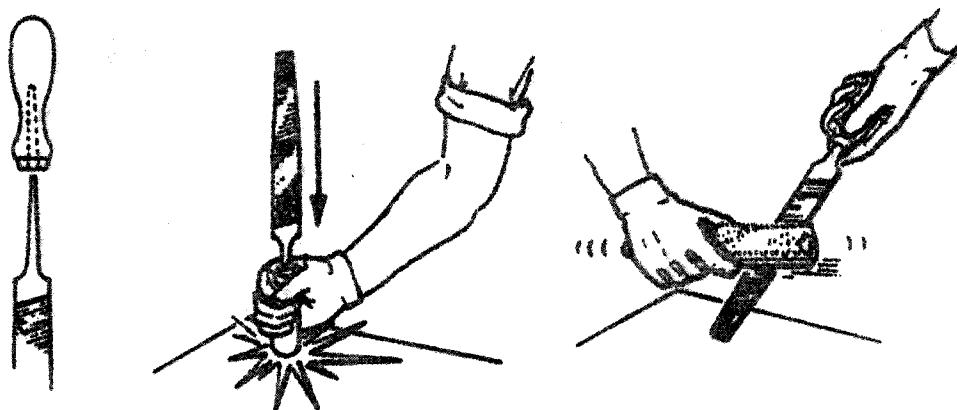
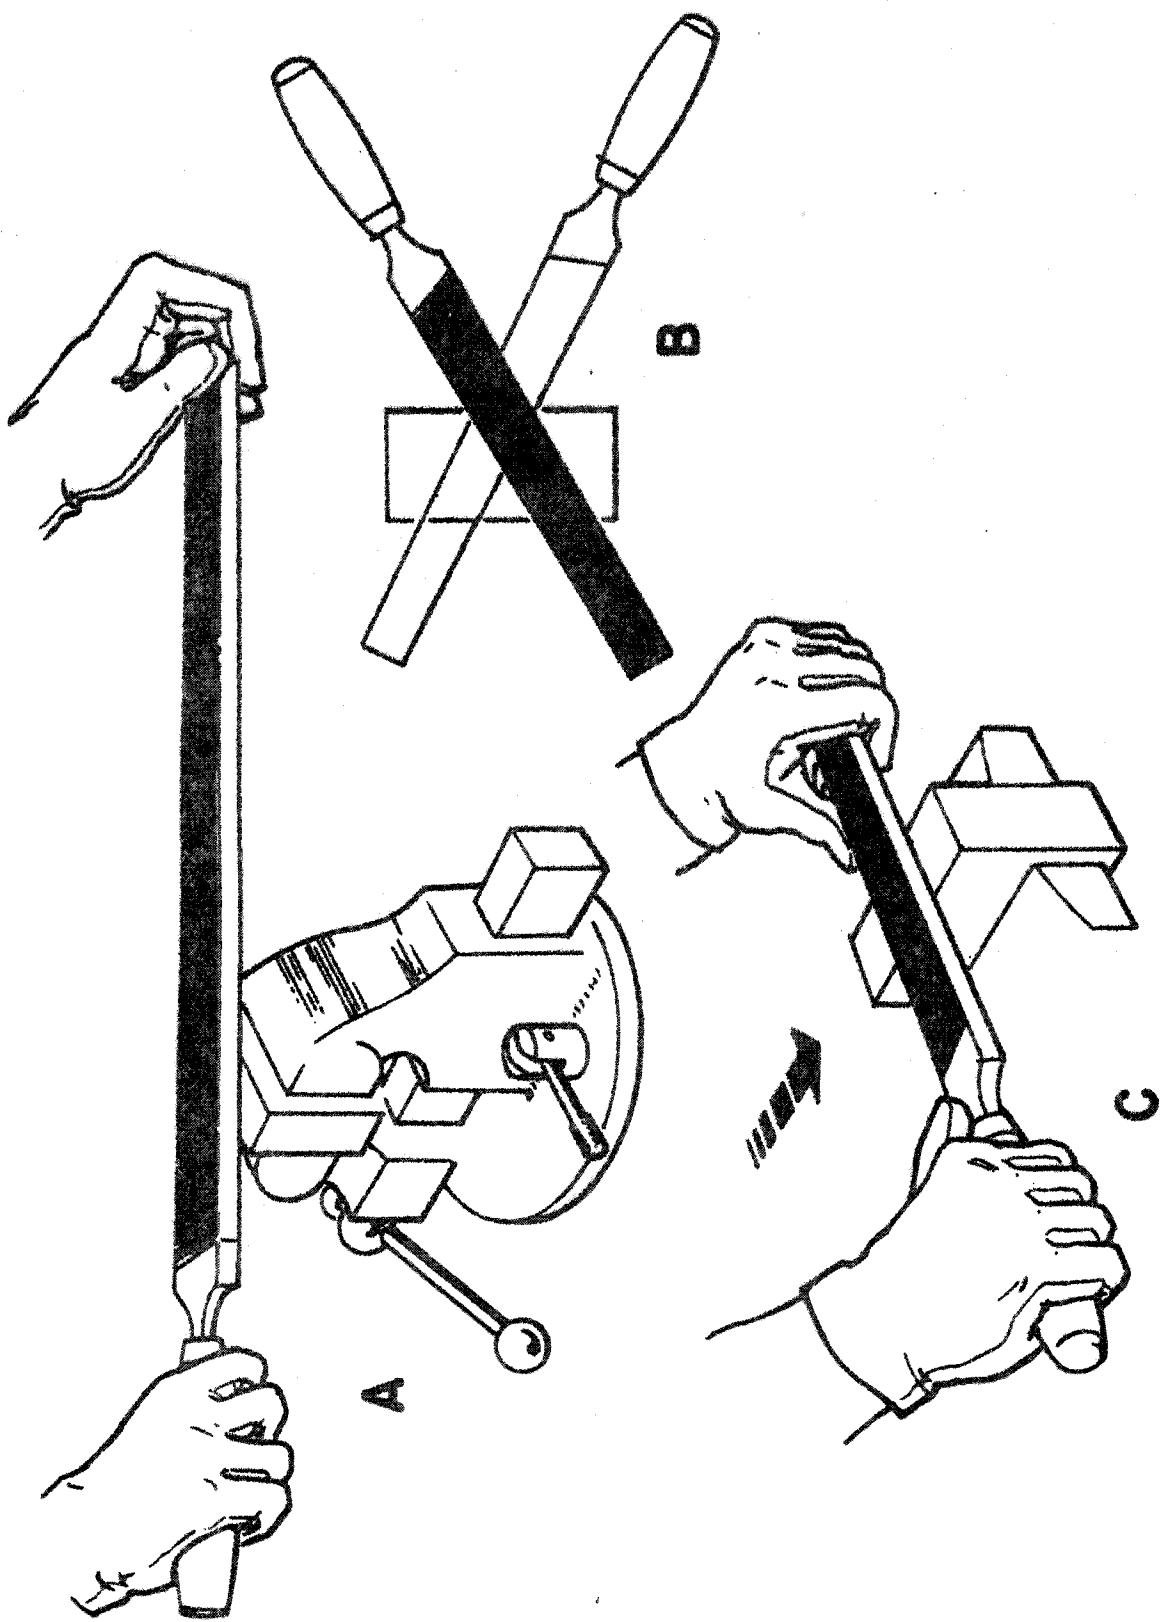

Figure 10.4. Use and Care of Files
Figure 10.5. Filing Techniques
2. To put a handle on a file: first, make sure the handle is the right size, and that the hole is large enough for the tang. Insert the tang into the hole in the handle then tap the back end of the handle on the bench. Make sure the handle is on straight. (See Figure 10.4.)
The teeth are set at an angle across the face of the file and slanting toward the tip of the file. (Figure 10.4.) On a single-cut file, the teeth are cut at an angle of 65 to 85 degrees to the centerline. On double-cut files the angle of the first set of teeth usually is 40 to 50 degrees and the crossing teeth 70 to 80 degrees. Proper methods of holding a file are shown in Figure 10.5.
5. Never use a file after the teeth become "choked" with particles of metal. Occasional bumping of the file against the bench will jar loose the filings which stick in the teeth. If the teeth get too loaded, it is best to clean the teeth with a file card. This is a brush with short, stiff, wire bristles. (See Figure 10.4.)